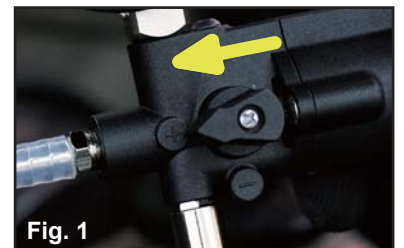

Fig. 1
- 1 Turn the gauge to + for pressure tests (Fig 1)